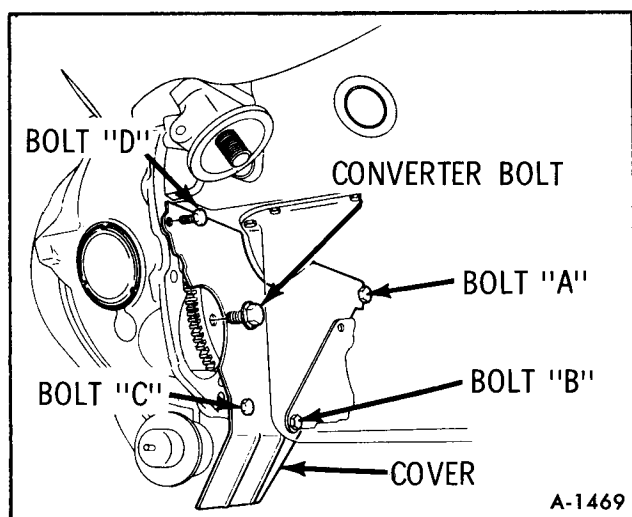

Figure 62—Flywheel Cover Removal
6. Referring to Figure 62, remove flywheel cover bolts "B", "C" and "D". Loosen bolt "A" and pivot cover out of the upper L.H. bolt "A" slot.
NOTE: Rotate flywheel to gain access (Refer to figure 62).
NOTE: Rotate flywheel to gain access. Refer to Figure 62.
14. Referring to Figure 62, install flywheel cover and tighten bolts "A", "B", "C" and "D" to 5 ft. lbs. torque.